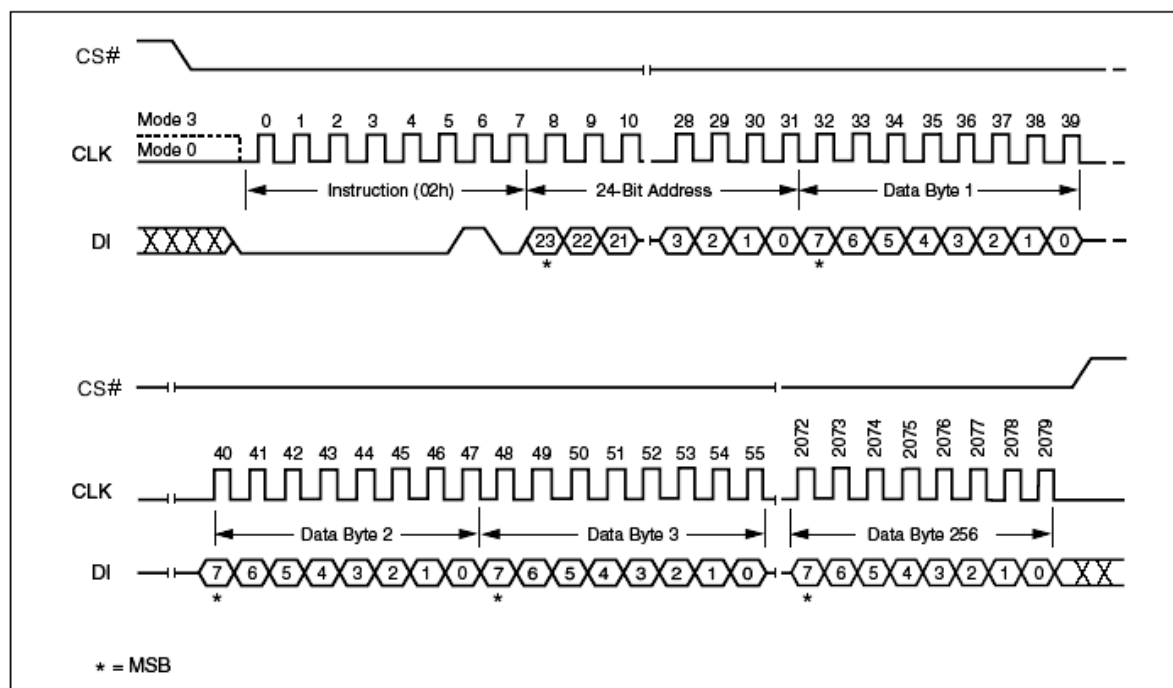

Figure 11. Page Program Instruction Sequence Diagram
The instruction sequence is shown in Figure 11. If more than 256 bytes are sent to the device, previously latched data are discarded and the last 256 data bytes are guaranteed to be programmed correctly within the same page. If less than 256 Data bytes are sent to device, they are correctly programmed at the requested addresses without having any effects on the other bytes of the same page. Chip Select (CS#) must be driven High after the eighth bit of the last data byte has been latched in, otherwise the Page Program (PP) instruction is not executed.